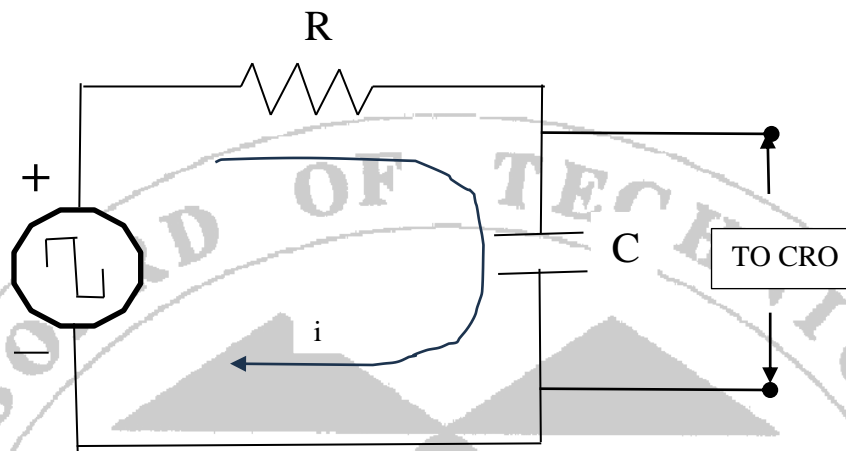

Fig 6.3: Actual circuit diagram
2. Connect the circuit as shown in figure 6.3 on breadboard.